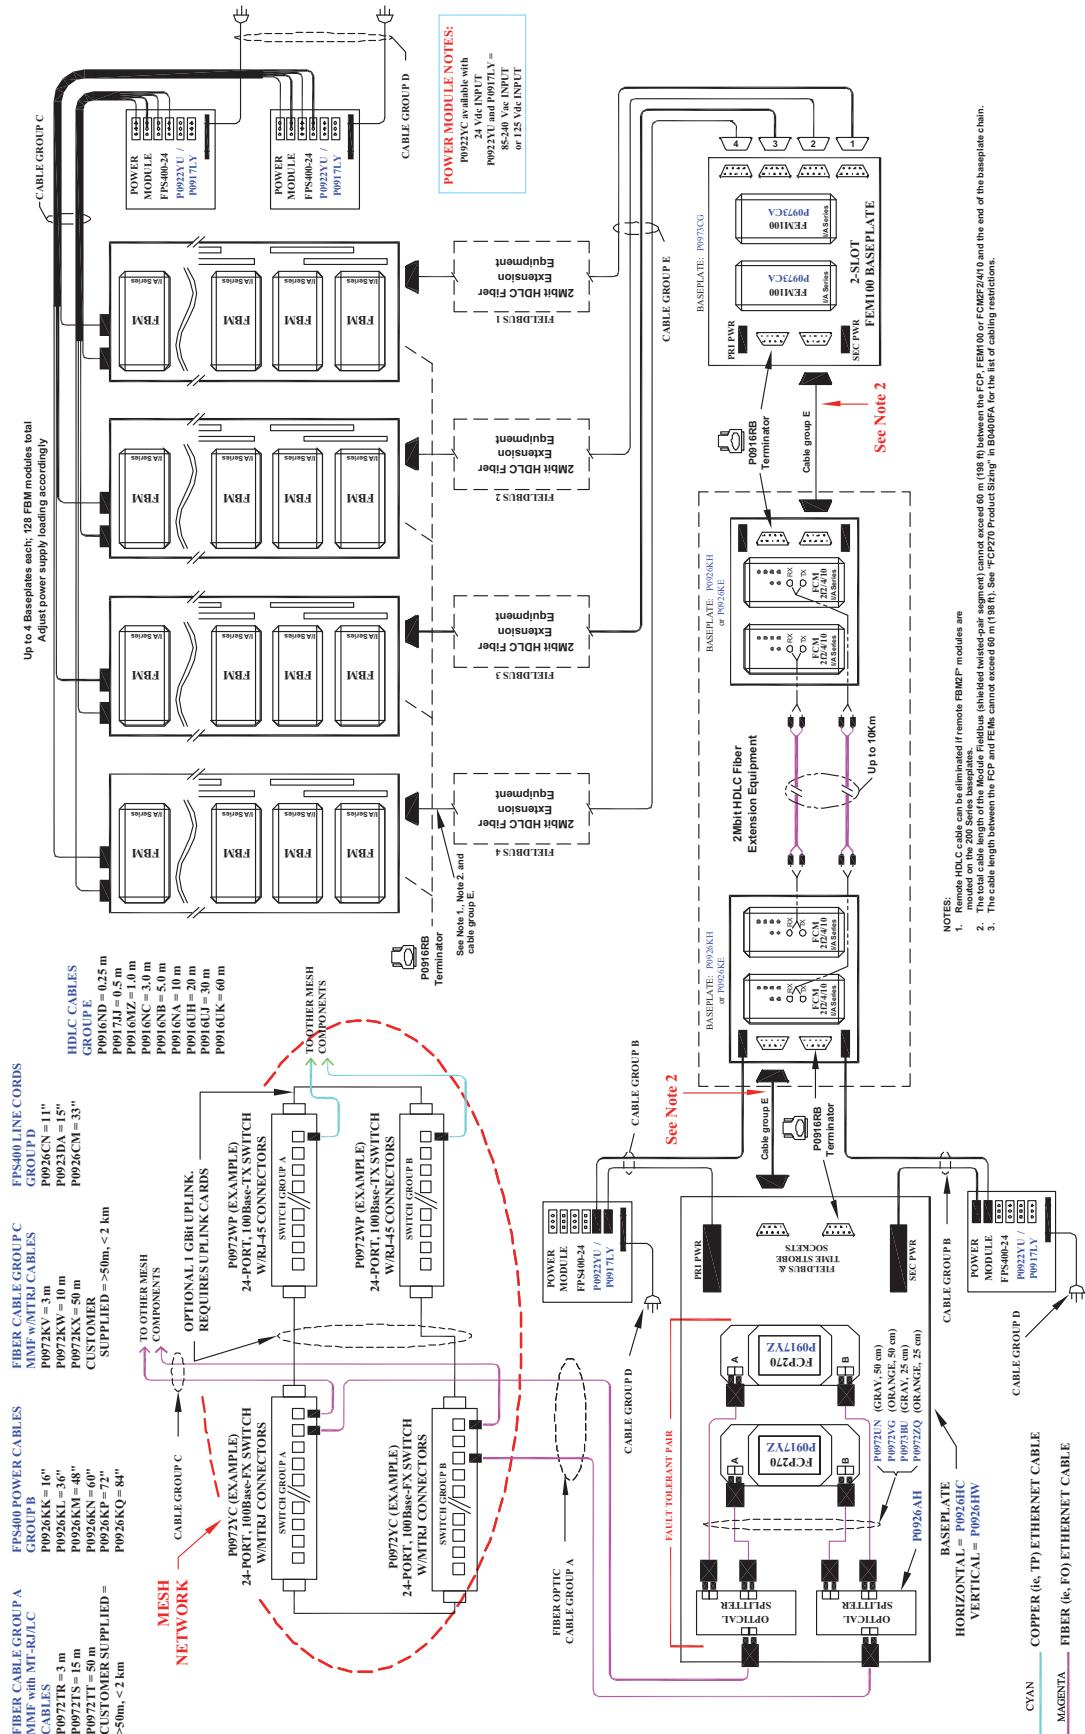

Figure B-2. Overview for Expanded Fieldbus Cabling (FCP270 to Four FEM100s)
- ◆ Figure B-2 “Overview for Expanded Fieldbus Cabling (FCP270 to Four FEM100s)” on page 95